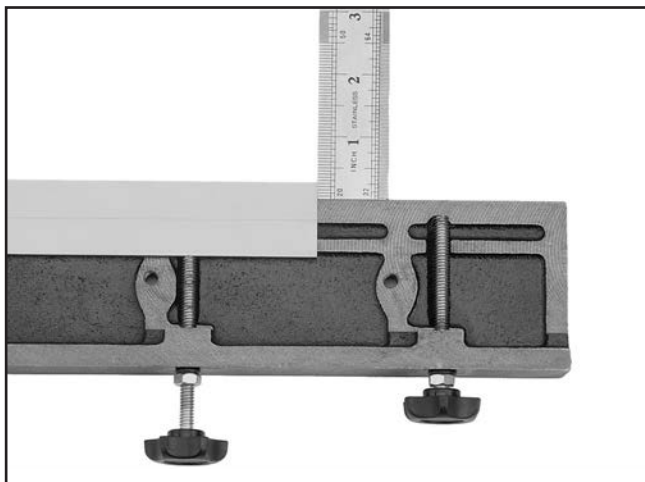

Figure 20. Extending the knife beyond the front edge of the slide bar.
7. Using a fine ruler, tighten the adjustment knobs to force the knife forward so that it extends beyond the front edge of the slide bar approximately $\frac{1}{4}$ " along its full length, as shown in **Figure 20**.